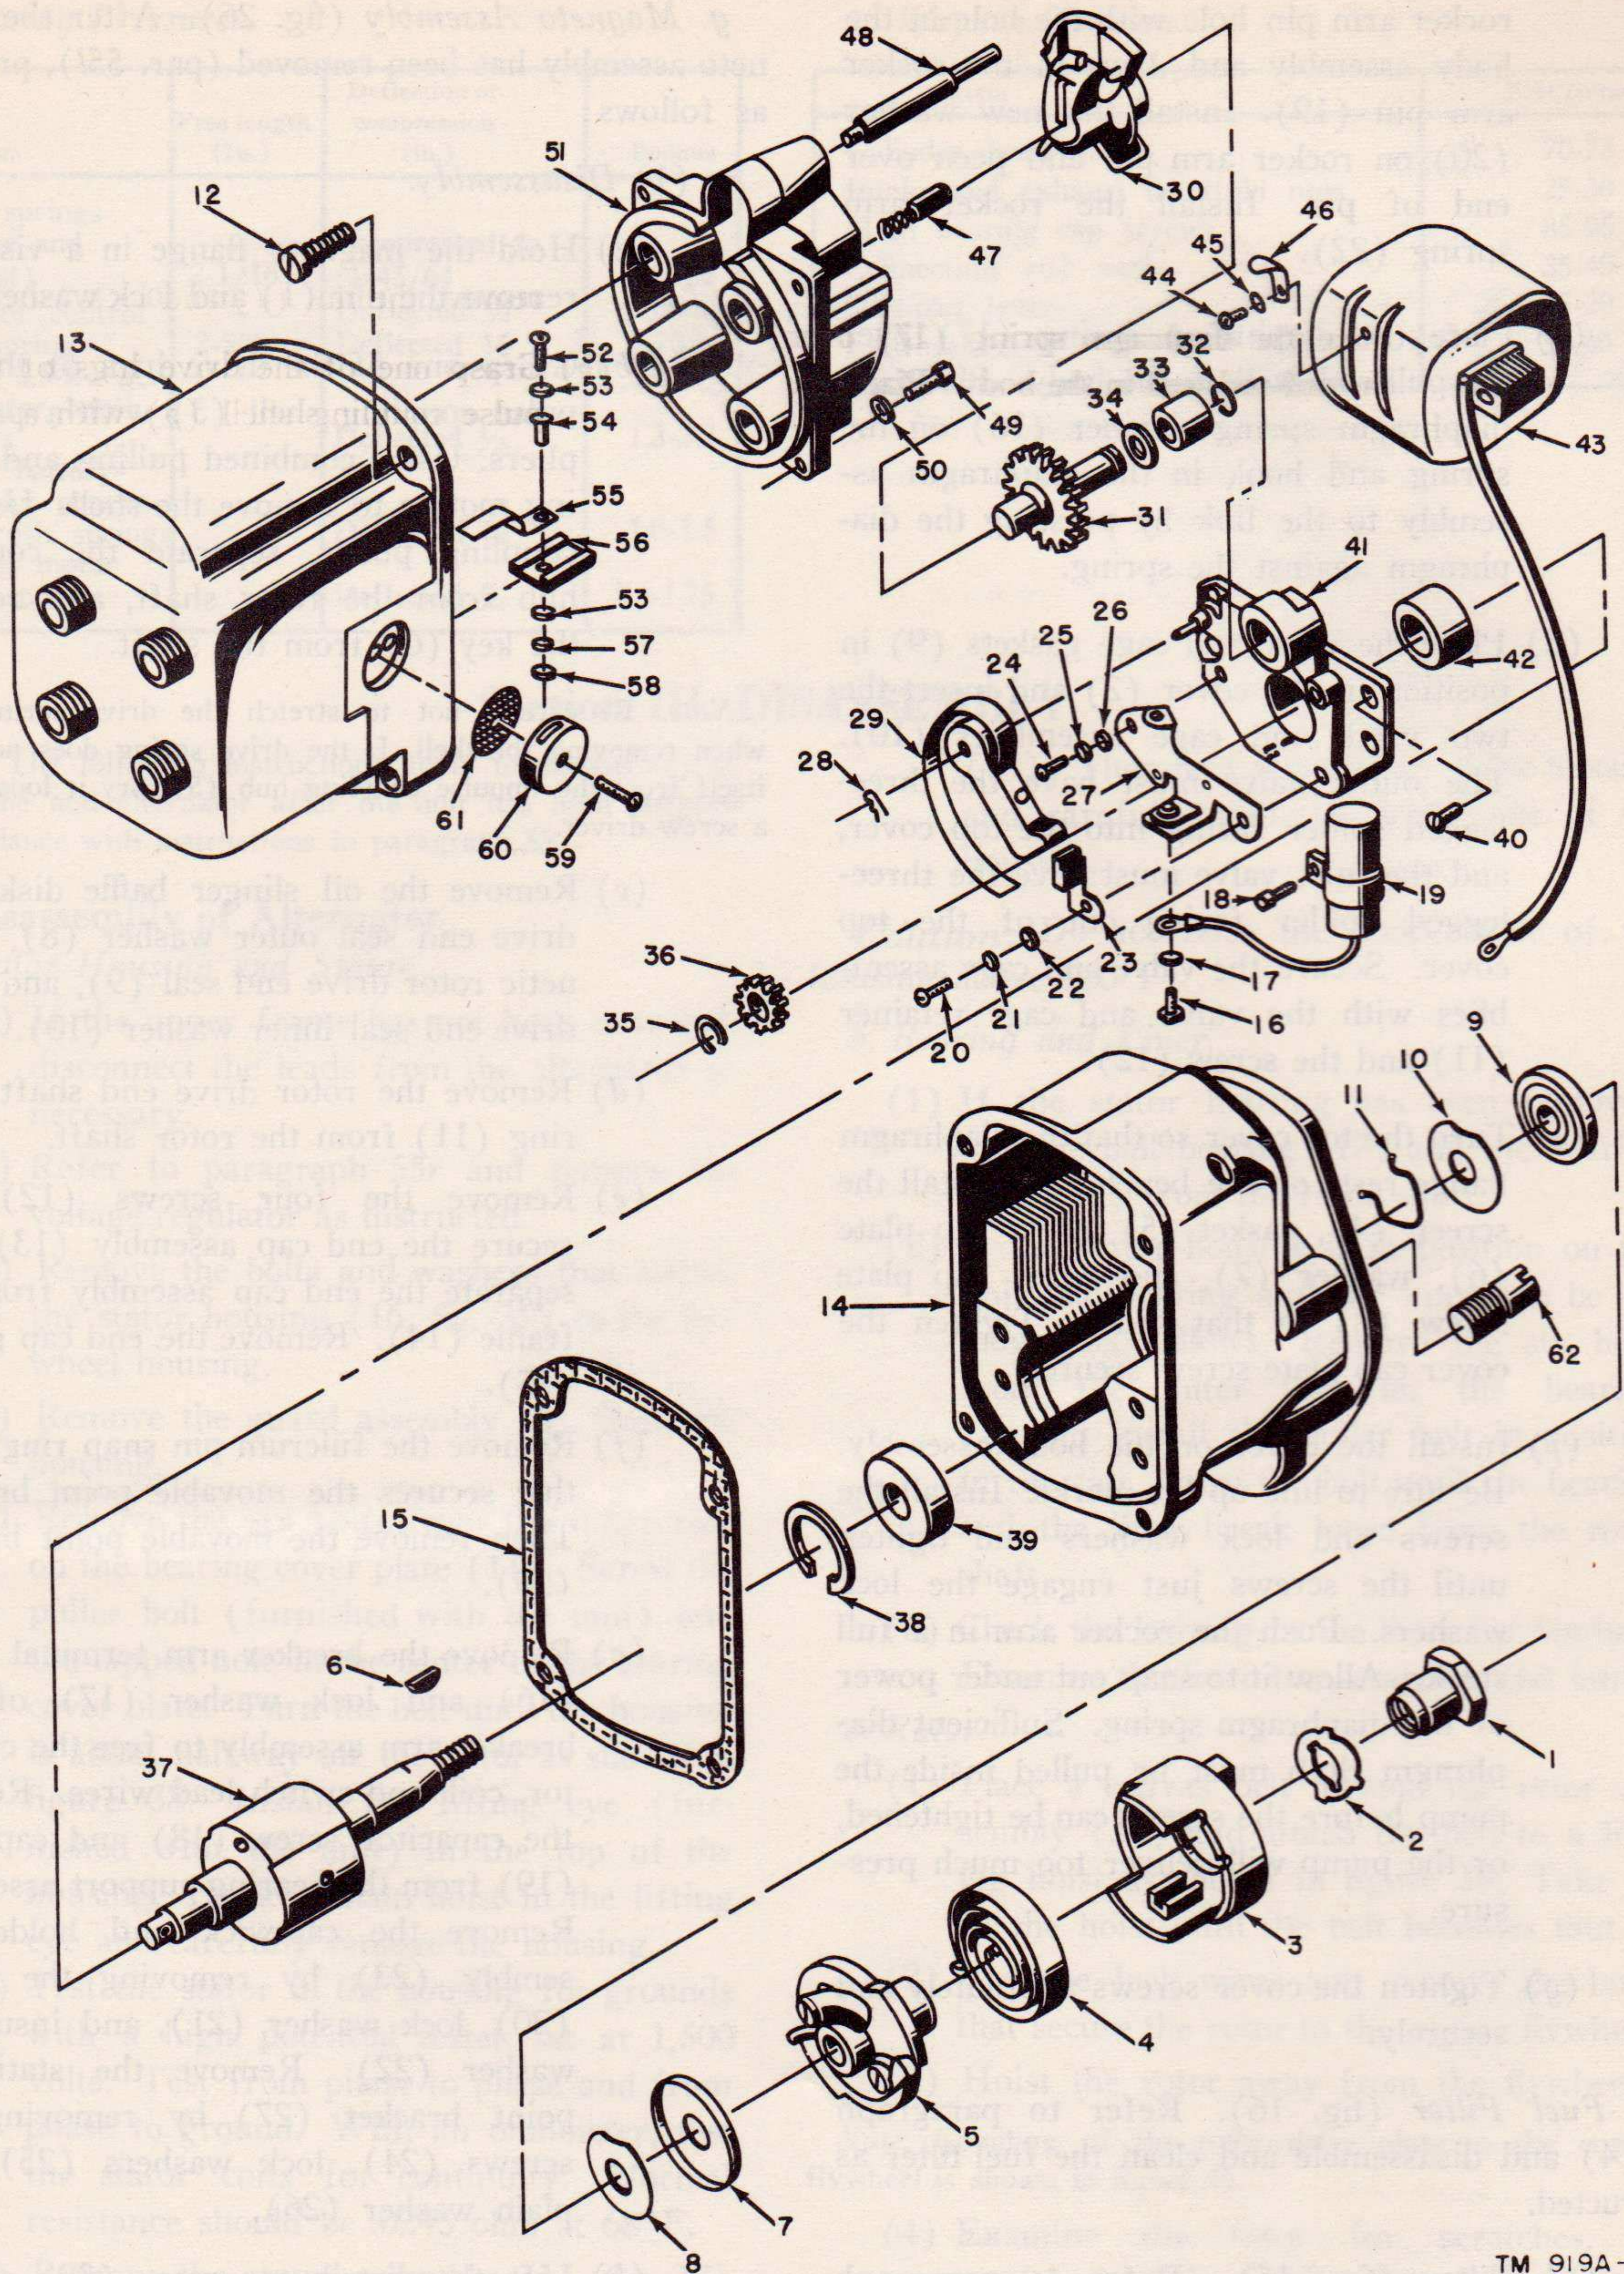

Figure 26. Magneto, exploded view.
*g. Magneto Assembly* (fig. 26). After the magneto assembly has been removed (par. 55l), proceed as follows:
### LEGEND FOR FIGURE 26